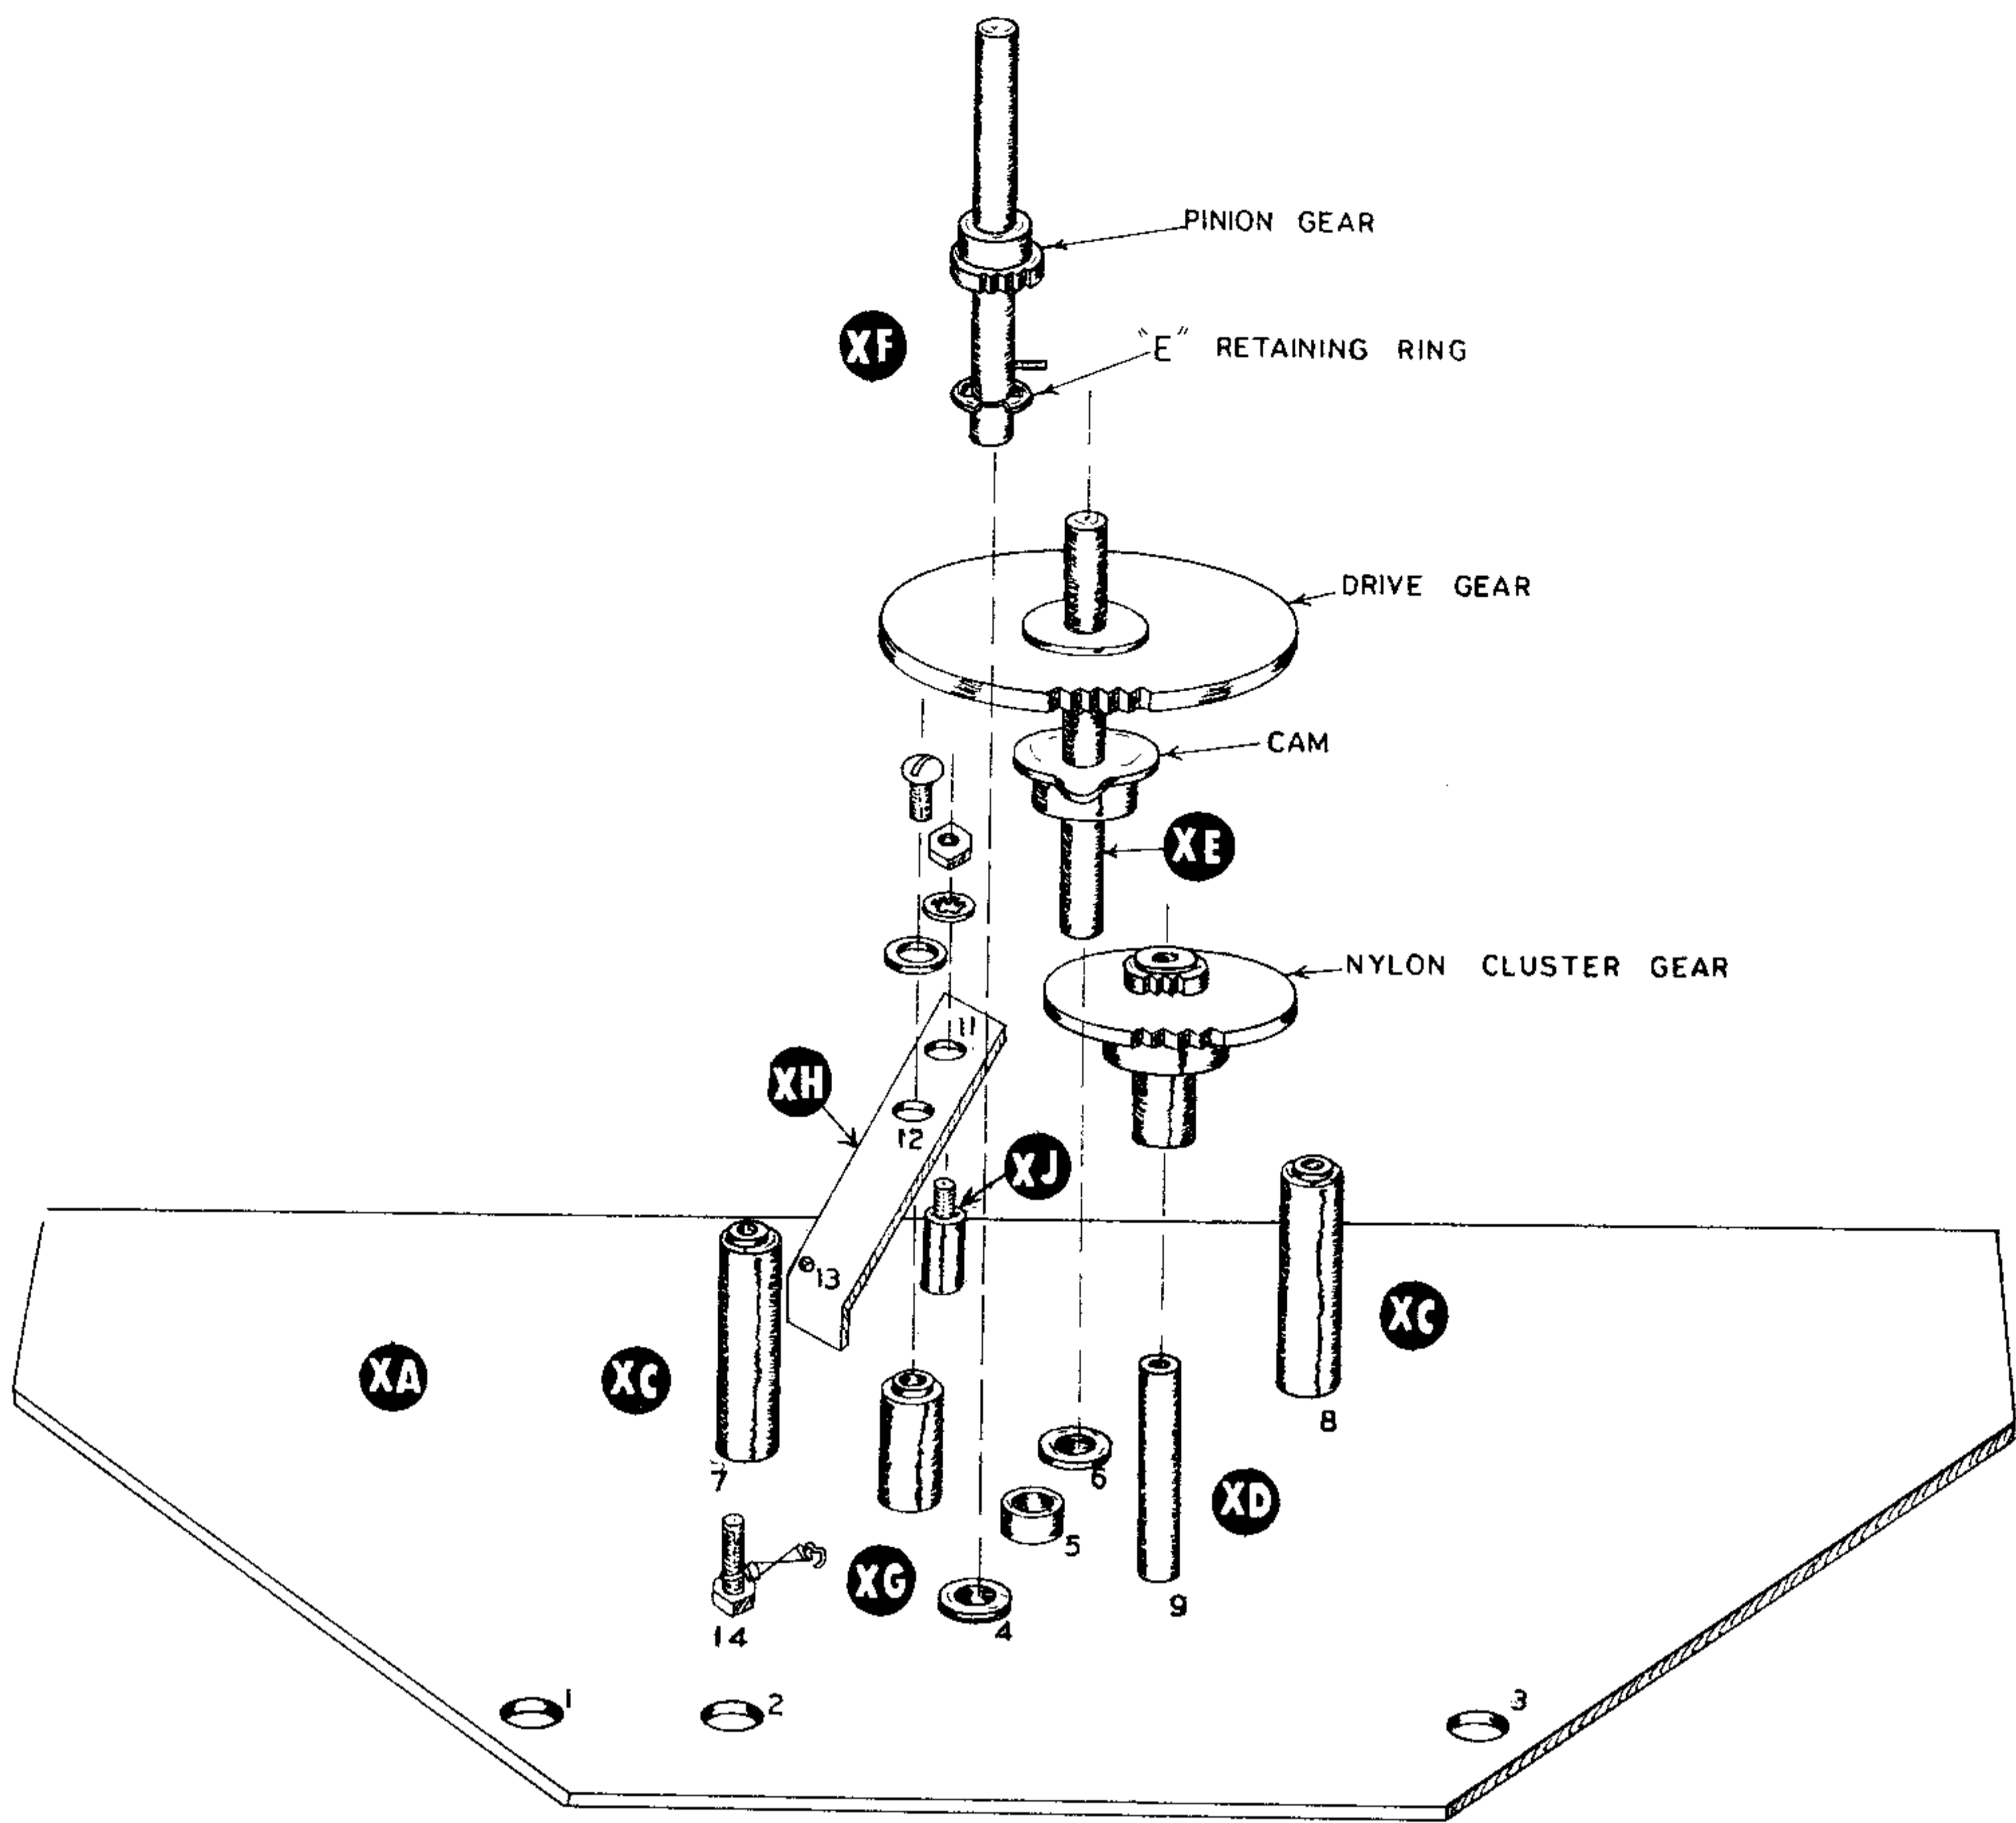

Figure 8
- ( ) Place the backplate XA on the top of an open cardboard box with the flanged side of the three bronze bearings up and the narrow side toward you, as in Figure 8. Placing the unit on a box allows it to be flat and permits the shaft to be inserted through the bearings and supports them in position. From time to time it will be necessary to pick up the backplate for assembly purposes but returning it to the "reference" position will make the assembly instructions clearer.